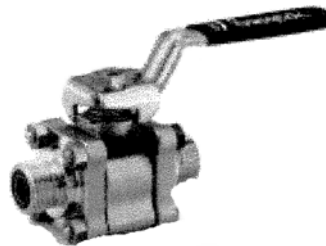

Figure 6-5. 1¹/₂-Inch Isolation Ball Valve (SS-67TF24)
- 1¹/₂-Inch Isolation Ball Valve (SS-67TF24) (see Figure 6-5). The following 1¹/₂-inch valves are manufactured by Whitey Co. and distributed by Swagelok. These valves are generally hull component isolation valves. These are Swagelok Series 60 valves and are repaired or replaced in accordance with the procedures listed in sections 6-6.2.1 through 6-6.2.3.